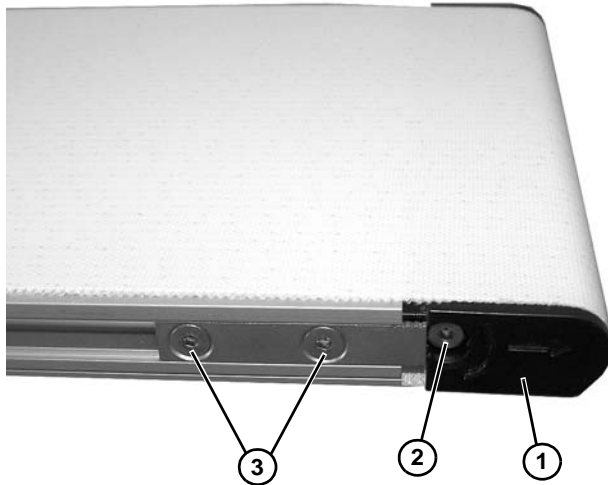

Figure 29
3. On opposite end of the conveyor, adjust idler end (**Figure 29, item 1**) tracking cam (**Figure 29, item 2**) to adjust head plate assembly just enough to remove slack in the belt.
4. Tighten screws (**Figure 29, item 3**) to 12 in-lb (1.4 Nm).